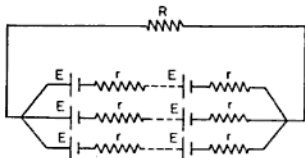

Fig. 9.7 Cells in series and parallel
**Series-Parallel Combination** A group of same number of cells connected in series may be joined in parallel, thus making a series-parallel combination of cells as shown in Fig. 9.7. The total emf of such a combination is equal to the total emf of one of the series group.